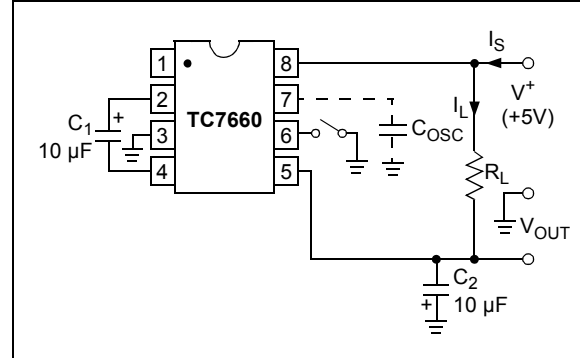

FIGURE 1-1: TC7660 Test Circuit.
**Electrical Characteristics:** Unless otherwise noted, specifications measured over operating temperature range with  $V^+ = 5V$ ,  $C_{OSC} = 0$ , refer to test circuit in Figure 1-1.
**Note:** Unless otherwise indicated,  $C_1 = C_2 = 10 \mu\text{F}$ ,  $\text{ESR}_{C1} = \text{ESR}_{C2} = 1 \Omega$ ,  $T_A = 25^\circ\text{C}$ . See Figure 1-1.
Note: Unless otherwise indicated,  $C_1 = C_2 = 10 \mu\text{F}$ ,  $\text{ESR}_{C1} = \text{ESR}_{C2} = 1 \Omega$ ,  $T_A = 25^\circ\text{C}$ . See Figure 1-1.